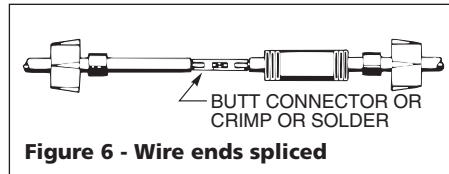

Figure 6 - Wire ends spliced
6. Insert wire end into butt connector and crimp. Match wire colors between power supply and motor (see Figure 6). Check lead connections by gently pulling on them.